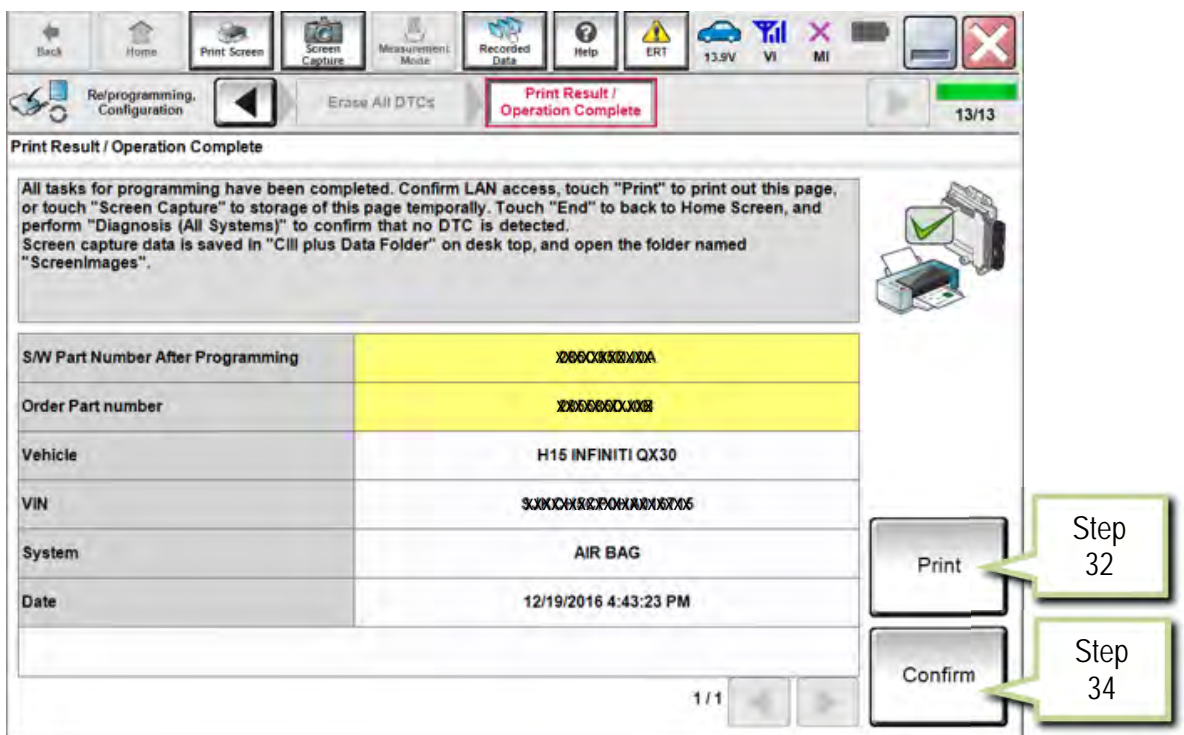

Figure 20
33. Print a copy of this screen (Figure 20) and attach it to the repair order for warranty documentation.